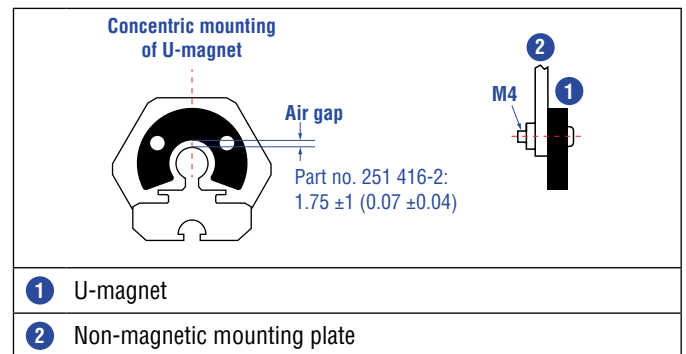
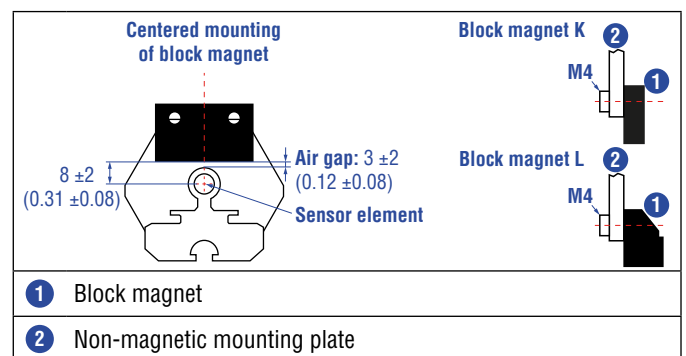

Fig. 46: Mounting of U-magnet (part no. 251 416-2)
Fig. 47: Mounting of block magnet K (part no. 251 298-2) and block magnet L (part no. 403 448)
- The maximum permissible air gap must not be exceeded (Fig. 46/ Fig. 47). Take care to mount the primary sensor axis in parallel to the magnet path in order to avoid damage to the carriage, magnet and sensor rod/sensor profile.